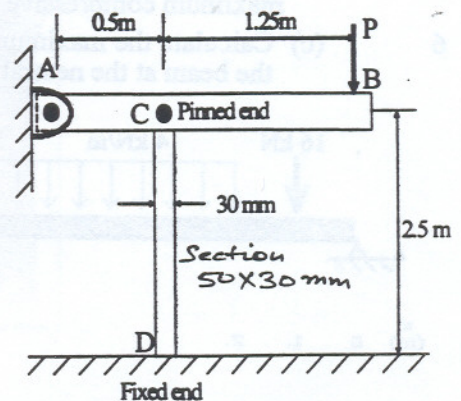

Fig. 6
- 12 6. A horizontal bar AB is supported by a column CD as shown with end conditions in Fig. 6. The column is a steel bar ($E = 200$ GPa) of 50×30 mm ~~square~~ cross section. Calculate the allowable load P if the factor of safety of 3 is required with respect to buckling of the column. [Buckling load = $(\pi^2 EI)/(KL)^2$]